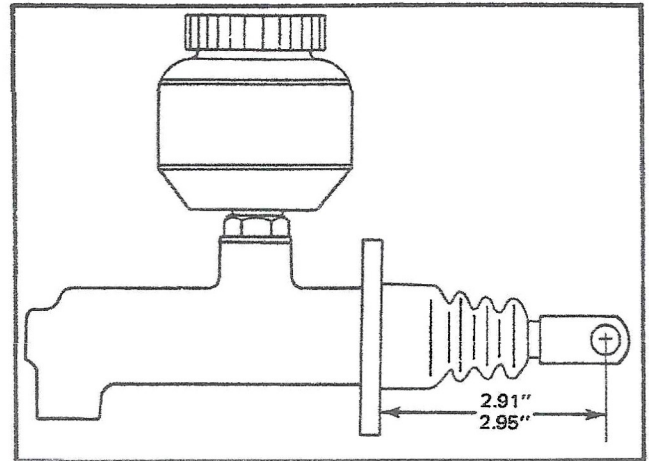

Fig. 17 - Article 89
- In order to achieve optimum ratio advantage from the intermediate linkage, the new push rod should be set to an assembled length of 2.9 inches as shown in Fig. 17.